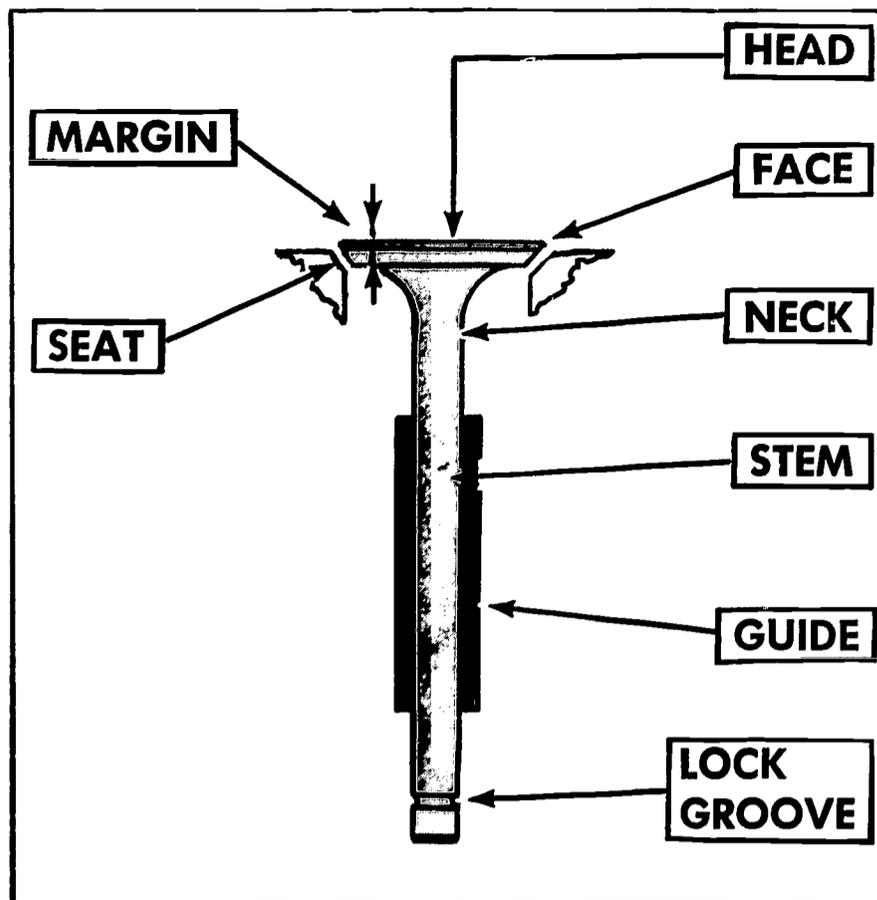

FIGURE 197. Wearing parts of a valve.
1. *Inspect the valve head (Figure 197).*